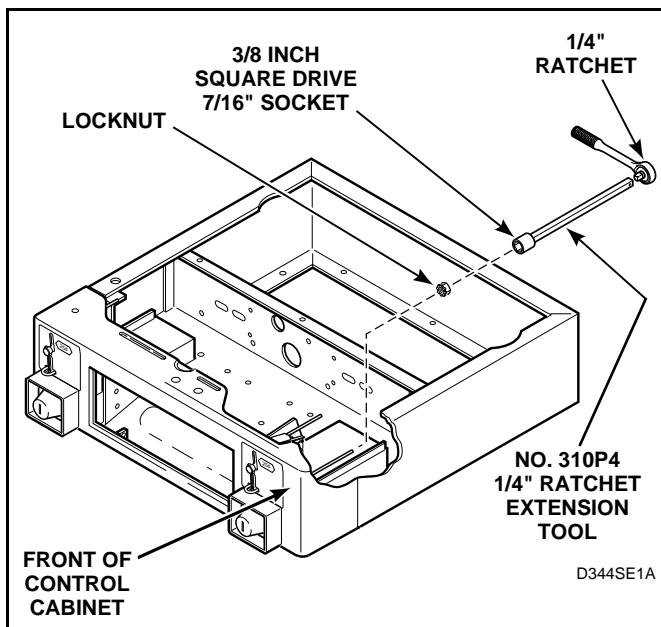

Figure 19
- (7) Use a 3/8 inch square drive 7/16" socket with No. 310P4 1/4 inch Ratchet Extension Tool to remove two locknuts holding coin drop to front of control cabinet. See *Figure 19*.
- (5) Using a 3/8 inch square drive 7/16" socket with No. 310P4 1/4 inch Ratchet Extension Tool, reinstall locknut. Tighten locknut firmly. See *Figure 19*.